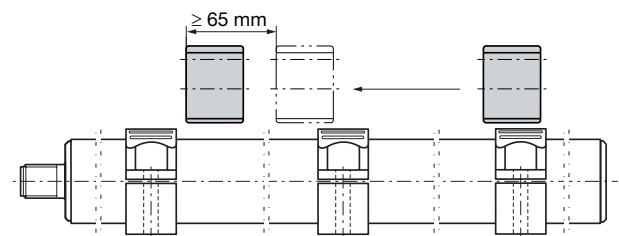

Fig. 4-3: Minimum distance when using multiple magnets
- When using multiple magnets, the distance between magnets must be at least 65 mm (see Fig. 4-3).